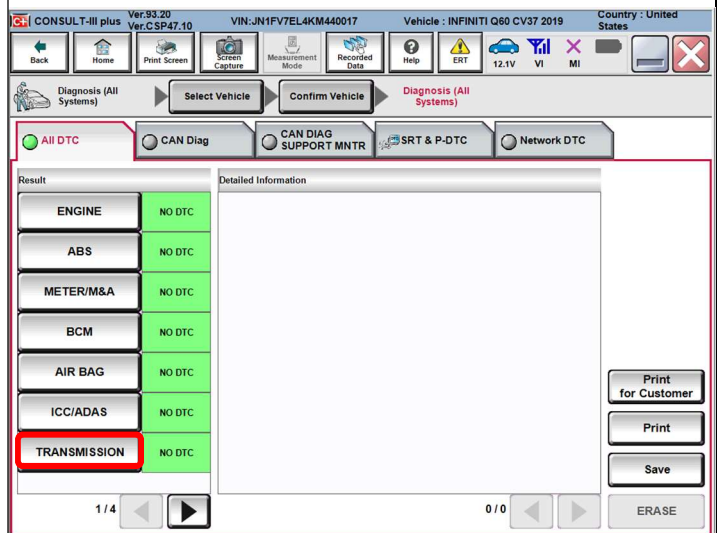

Figure 4
6. Select Transmission from the list of control units on the left. (Figure 4)